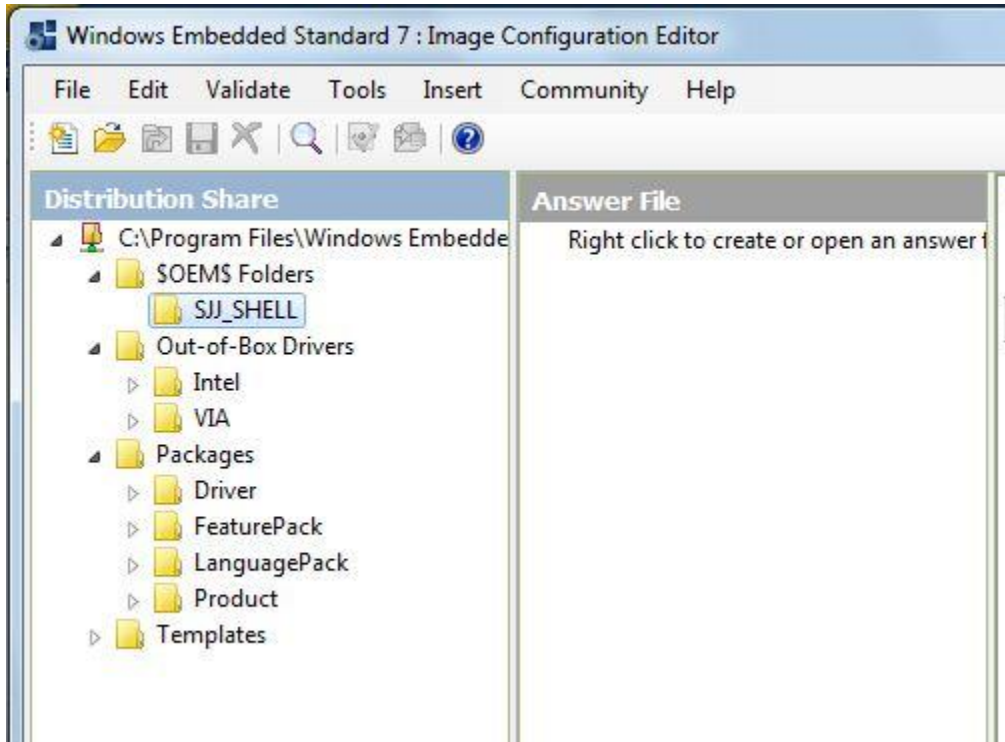

Figure 5-4 - Find SJJ_SHELL in \$OEM\$ Folders
3. In the Distribution Share, expand the “\$OEM\$ Folders” so that the SJJ_SHELL folder is visible, Figure 5-4